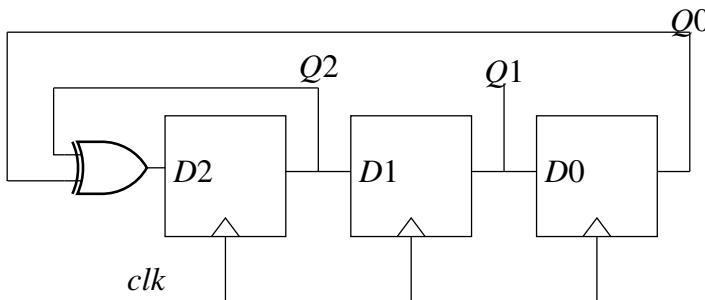

Fig. 5.3
3. In the circuit in Fig. 5.3, the clock (Clk) frequency provided to the circuit is 500MHz. Starting from the initial value of the flip-flop outputs $Q2Q1Q0 = 111$ with $D2 = 1$, find the time after which $Q2Q1Q0 = 100$.